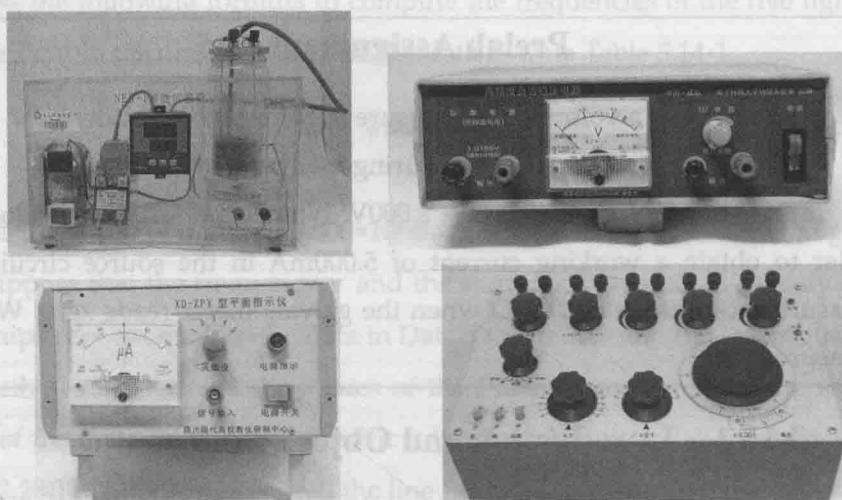

Fig. 3.15-1 Experimental apparatus
- A box potentiometer(Fig. 3.15-1)